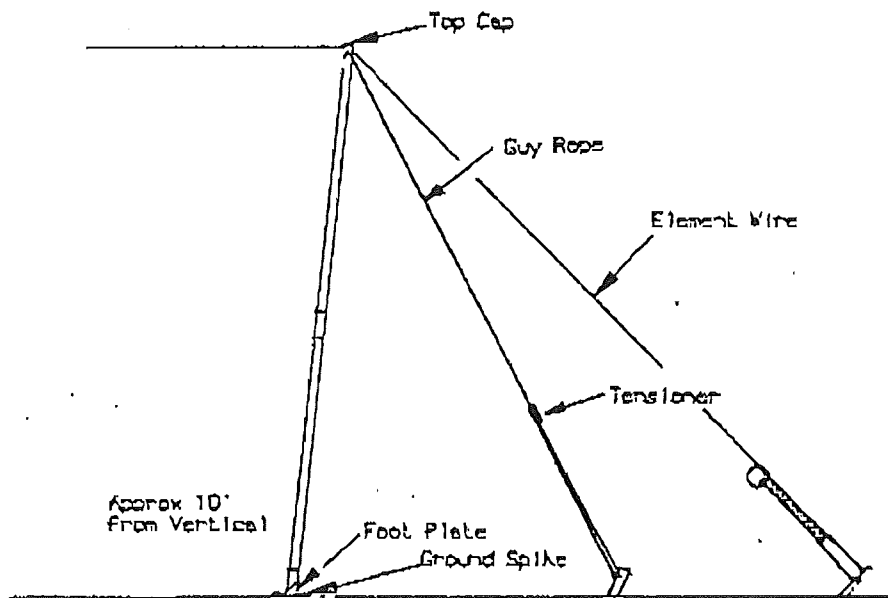

Figure 5-7. Sloping Vee Termination
Step 11 Disconnect the Aerial Wire Assembly from the reel and terminate it with a Load Assembly and Ground Peg Assembly. Pretension the wire, drive in the Ground Peg Assembly, and assemble and erect the Minimast. Repeat this on the second element of the vee. (See paragraphs 4.2.7, 4.2.8, 4.2.9 and 4.2.10) (See Figure 5-7.)